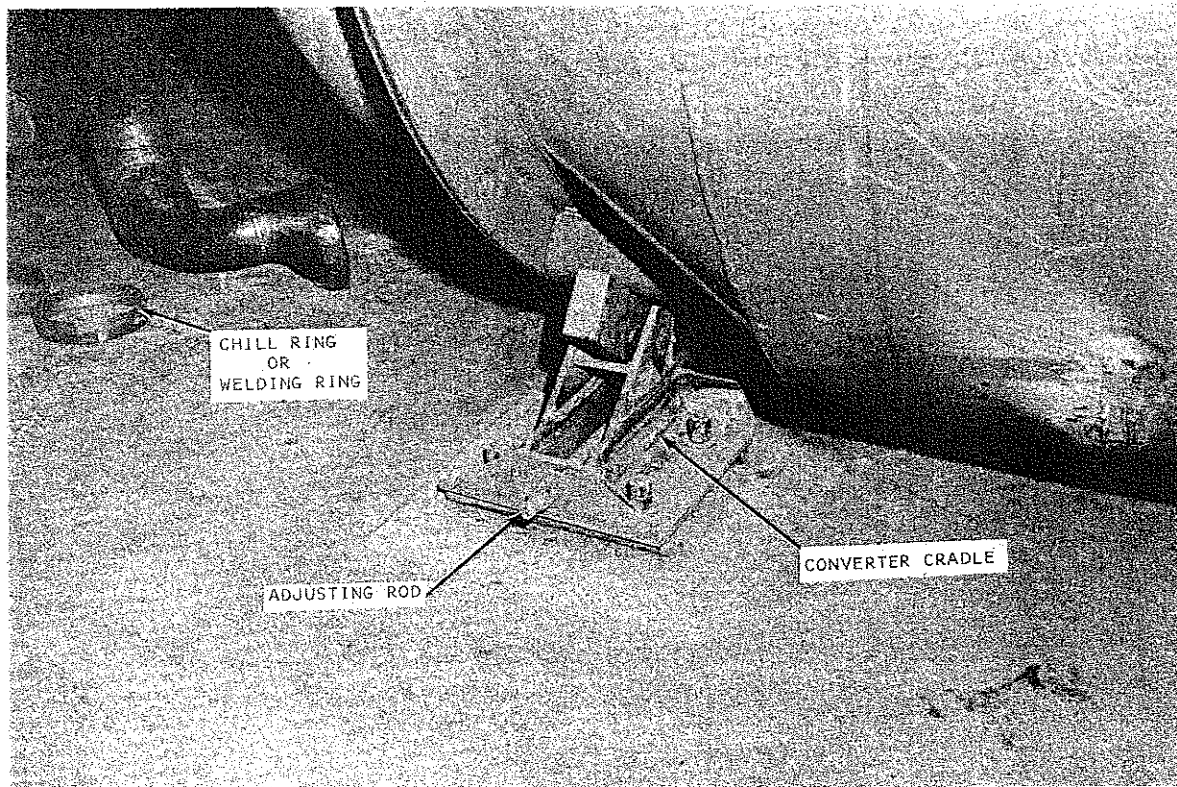

FIG. 5. ADJUSTING CONVERTER
- b) After the converter "A" inlet, "A" outlet and "B" outlet nozzles are properly aligned, hold the alignment by adjusting the cradle if necessary (Fig. 5).